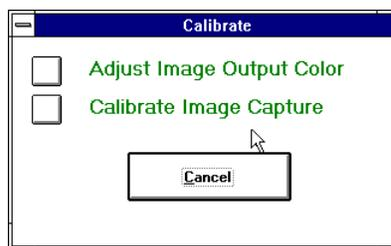

Figure 4-15. Calibrate Dialog Box
4. Choose the Calibration button from the System Management window to display the Calibrate dialog box (Figure 4-15).